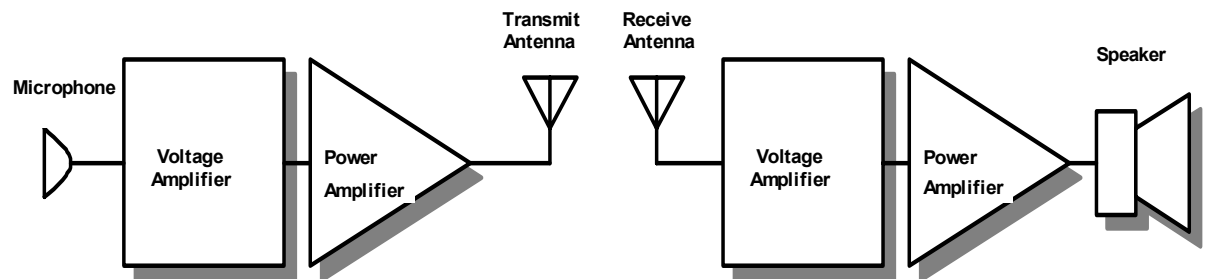

Figure 1-1 - A Simple Radio System
A simple radio system could be constructed as shown in the block diagram of Figure 1-1 below. This system has some severe problems, but it will serve as a good starting point.
Back to our problem. The radio system of Figure 1-1 needs to transmit *audio frequencies*. Audio frequencies are those that we can hear. They are from 20 Hz to 20,000 Hz. (Most persons over the age of 15 have great difficulty hearing anything over 15,000 Hz). An audio frequency that is in the "middle" of our hearing range is 1000 Hz, or 1 kHz. Let's calculate the wavelength of a 1 kHz electromagnetic wave:
As if the inability to build a suitable antenna weren't enough, another serious problem exists with the system of Figure 1-1. Imagine that somehow, practical antennas were invented to work at audio frequencies. We'll want to operate several stations at the same time; having just one broadcaster "hogging" the airwaves just won't do! Do you see the problem? Yes! *All the stations will be sharing the same frequencies (the audio frequencies)*. It will be impossible to separate different stations at the radio receiver, since they'll all be on the same group of frequencies.
You can see that the system of Figure 1-1 is hardly practical. Can you think of a way to make it work? How could we get the antennas to be shorter?
- 1-11 What are two problems with the system of Figure 1-1?